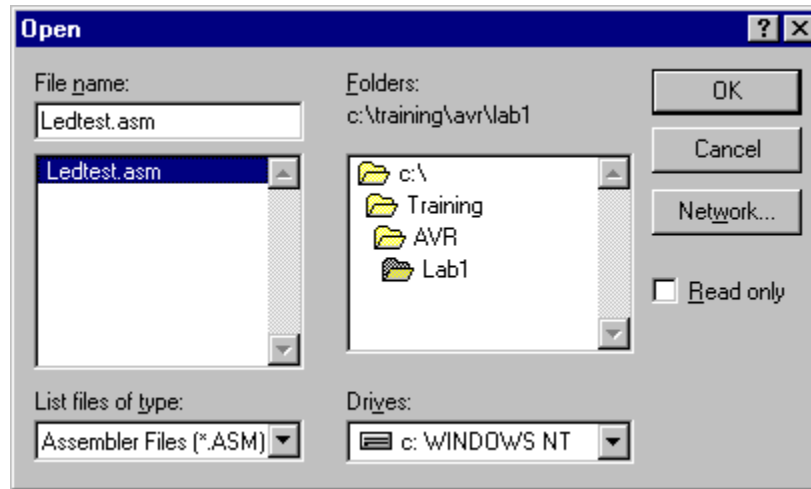

Figure 2: WAVRASM Open File Dialog
2. Open the Assembly file for editing by choosing File -> Open and navigating to the C:\TRAINING\AVR\LAB1 directory and select LEDTEST.ASM (See **Figure 2**).